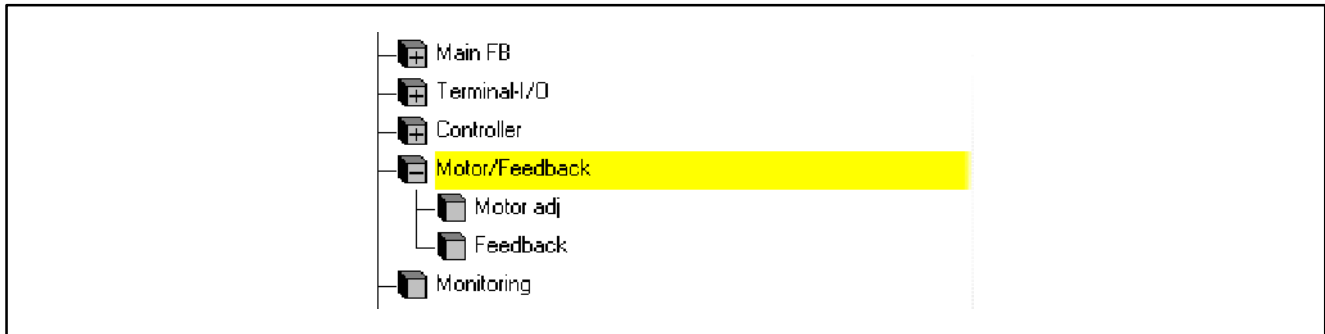

Fig. 5-3 How to find the menus "Motor setting" and "Feedback systems"
- For this, change to the parameter menu (see button Fig. 5-3) and select the menu "Motor/feedback system".
Change to the menu "Motor setting" (see Fig. 5-3).